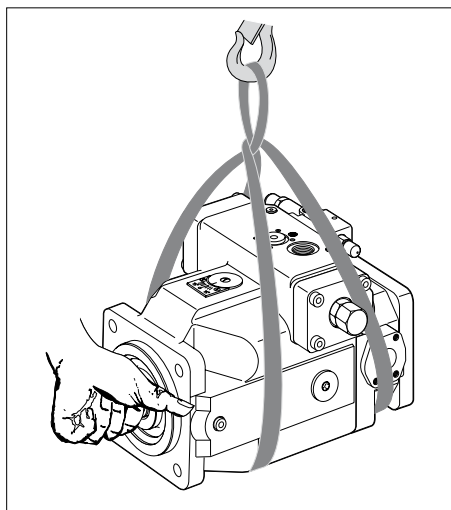

Fig. 20: Transport with lifting strap
- ▶ Place the lifting strap around the axial piston unit in such a way that it passes over neither the attachment parts (e.g. valves) nor such that the axial piston unit is hung from attachment parts (see Fig. 20).